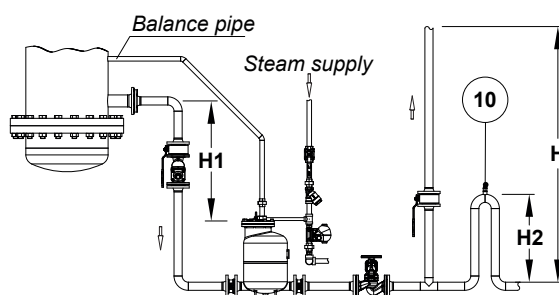

Fig. 3
This configuration works with units operating with a minimum absolute pressure of 0,2 bar (Fig. 3). For proper operation the filling head (H1) must range between 1 and 2 meters. The lift (H) must be as minimum as possible, but never less than 1 meter, otherwise a siphon with height (H2) is required. Steam must be used as motive medium, and its maximum pressure should not exceed 3 bar.